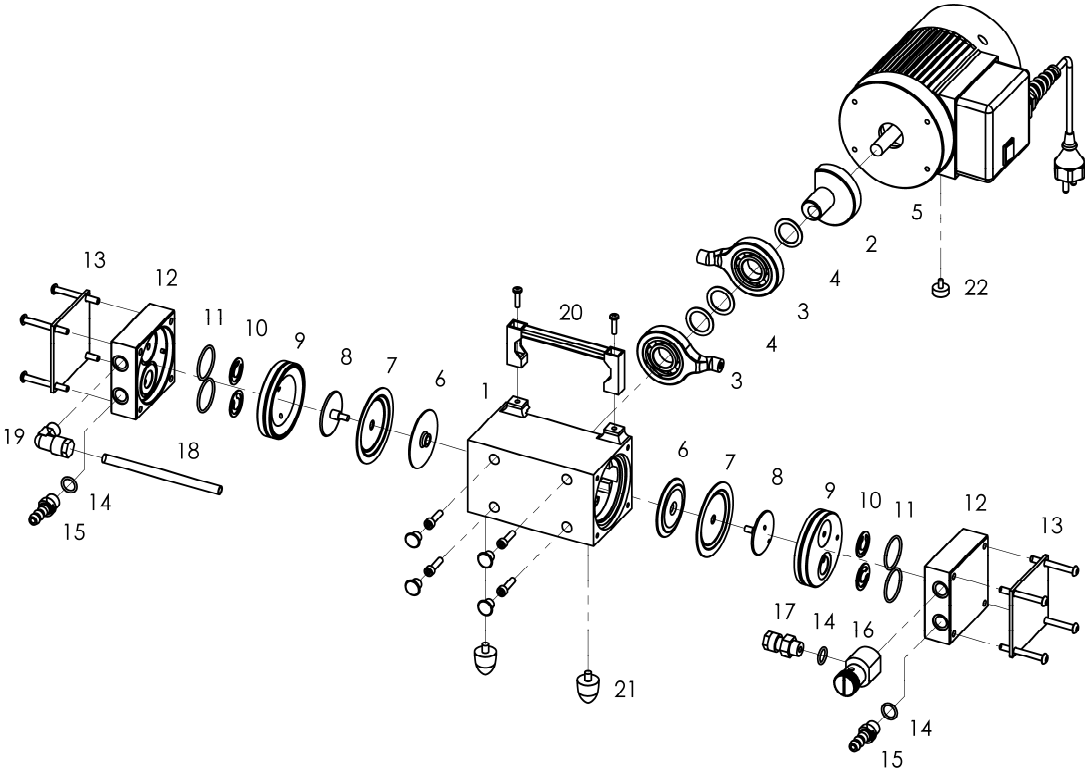

Fig. 6 Exploded view (MPC 101 Z)
3. Bring the connecting rod **(5)** (see Fig. 6) and the diaphragm **(8)** into the central position.